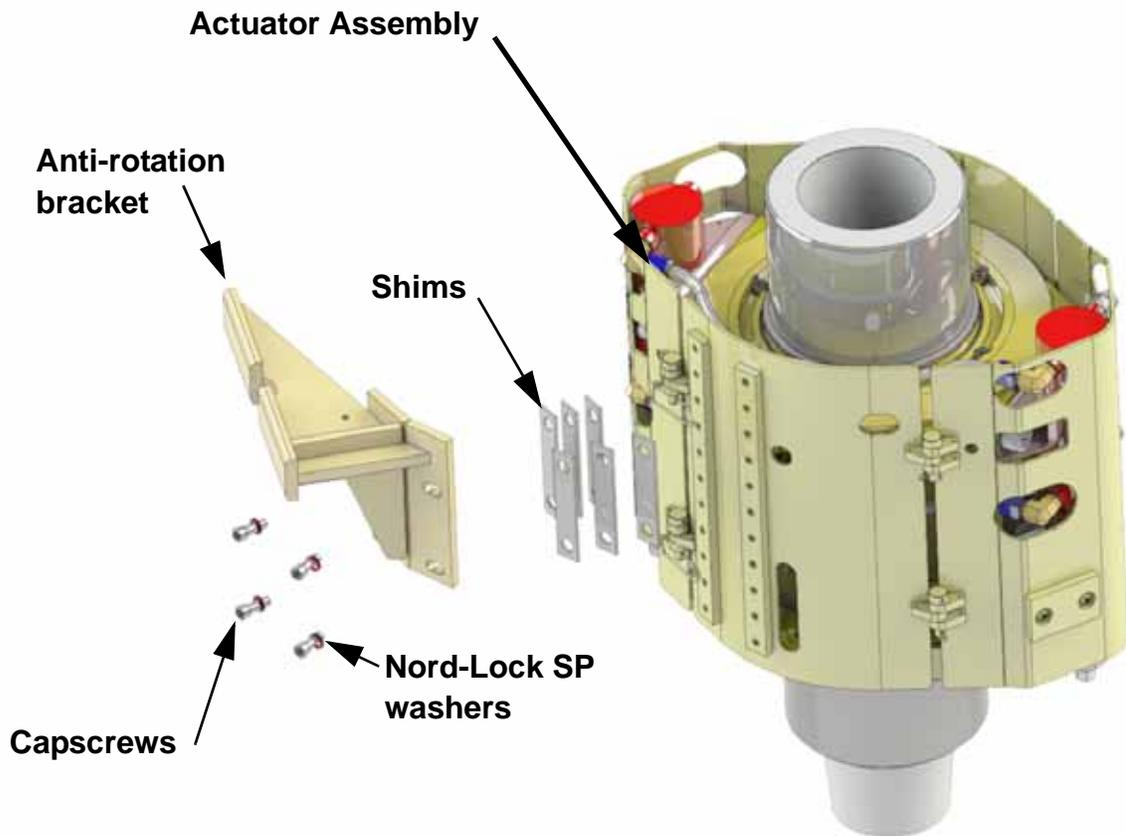
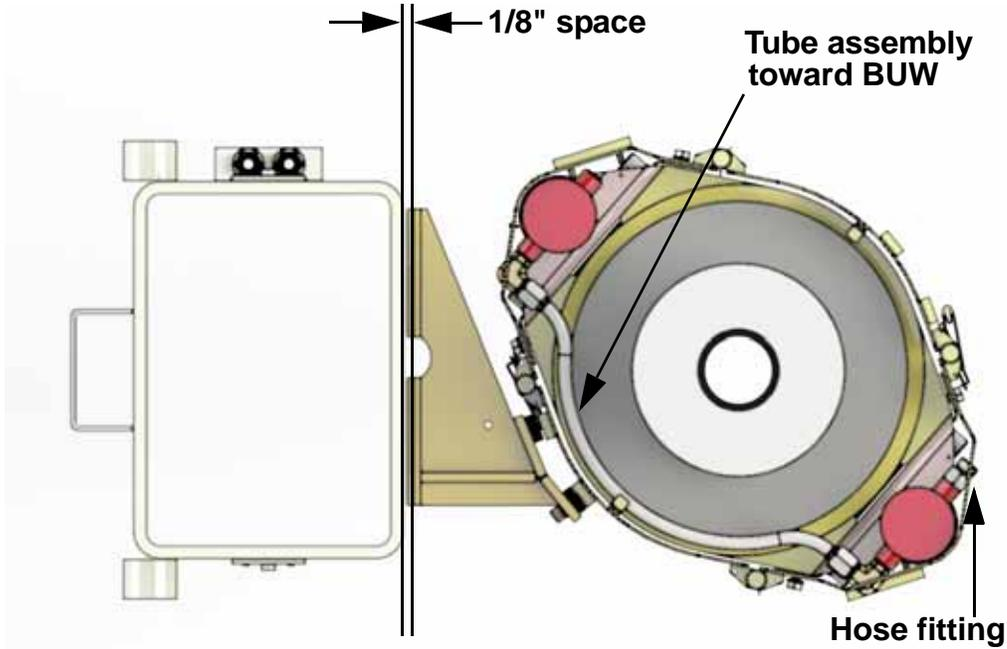

Figure 9: Anti-rotation installation.
Figure 10: Top view, correct anti-rotation bracket installation.
1. Select the correct number of shims (DT17025) to achieve 1/8" spacing between the bracket and the BUW. See Figure 9 on page 7 and Figure 10 on page 8.